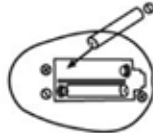

Figure2
2. Insert the batteries. (According to the figure 2)